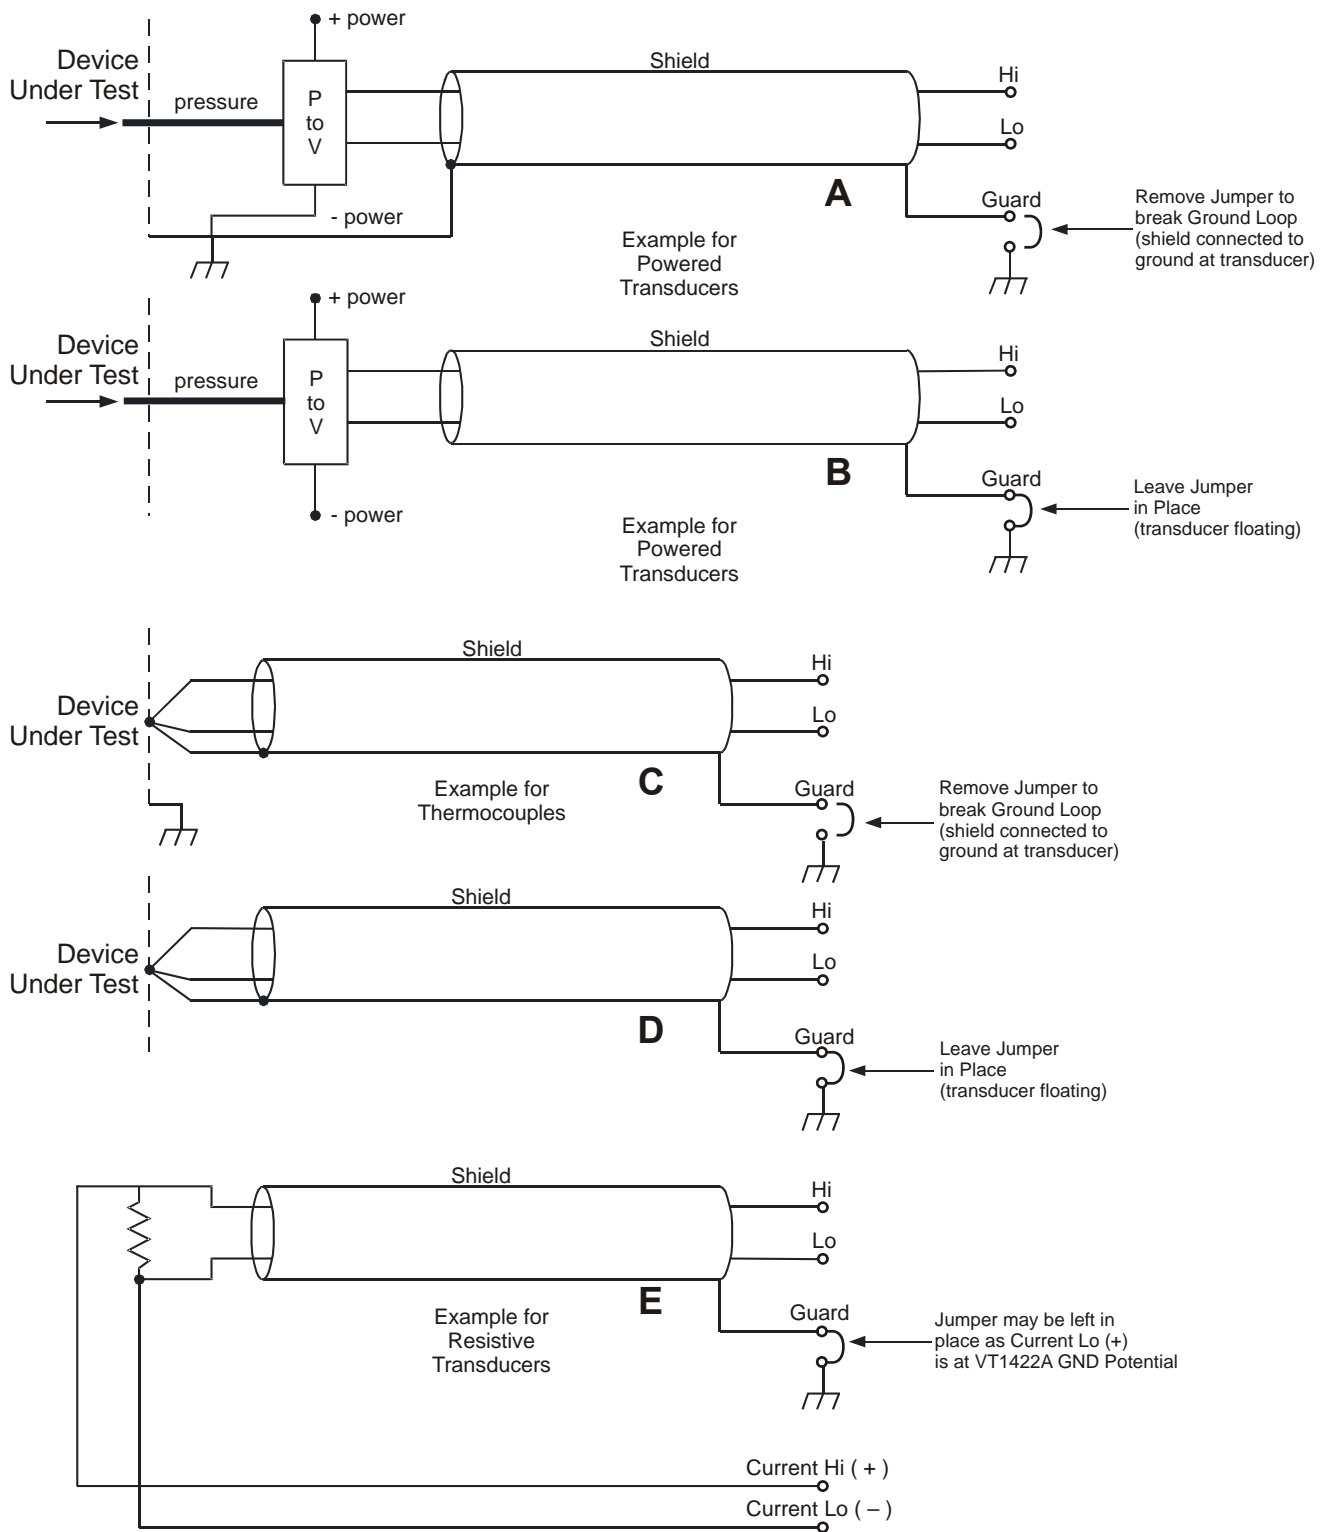

Figure 2-9. Preferred Signal Connections
For any A/D Module to scan channels at high speeds, it must use a very short sample period ($< 10 \mu\text{s}$ for the VT1422A). If significant normal mode noise is presented to its inputs, that noise will be part of the measurement. To make quiet, accurate measurements in electrically noisy environments, use properly connected shielded wiring between the A/D and the device under test. Figure 2-9 shows recommended connections for powered transducers, thermocouples, and resistance transducers. (See Appendix E page 483 for more information on Wiring Techniques.)
- a. **Grounded Transducer with shield connected to ground at the transducer:** Low frequency ground loops (dc and/or 50/60 Hz) can result if the shield is also grounded at the Terminal Module end. To prevent this, remove the GND-GRD jumper for that channel (Figure 2-9 A/C).
- b. **Floating Transducer with shield connected to the transducer at the source:** In this case, the best performance will most likely be achieved by leaving the GND-GRD jumper in place (Figure 2-9 B/D).